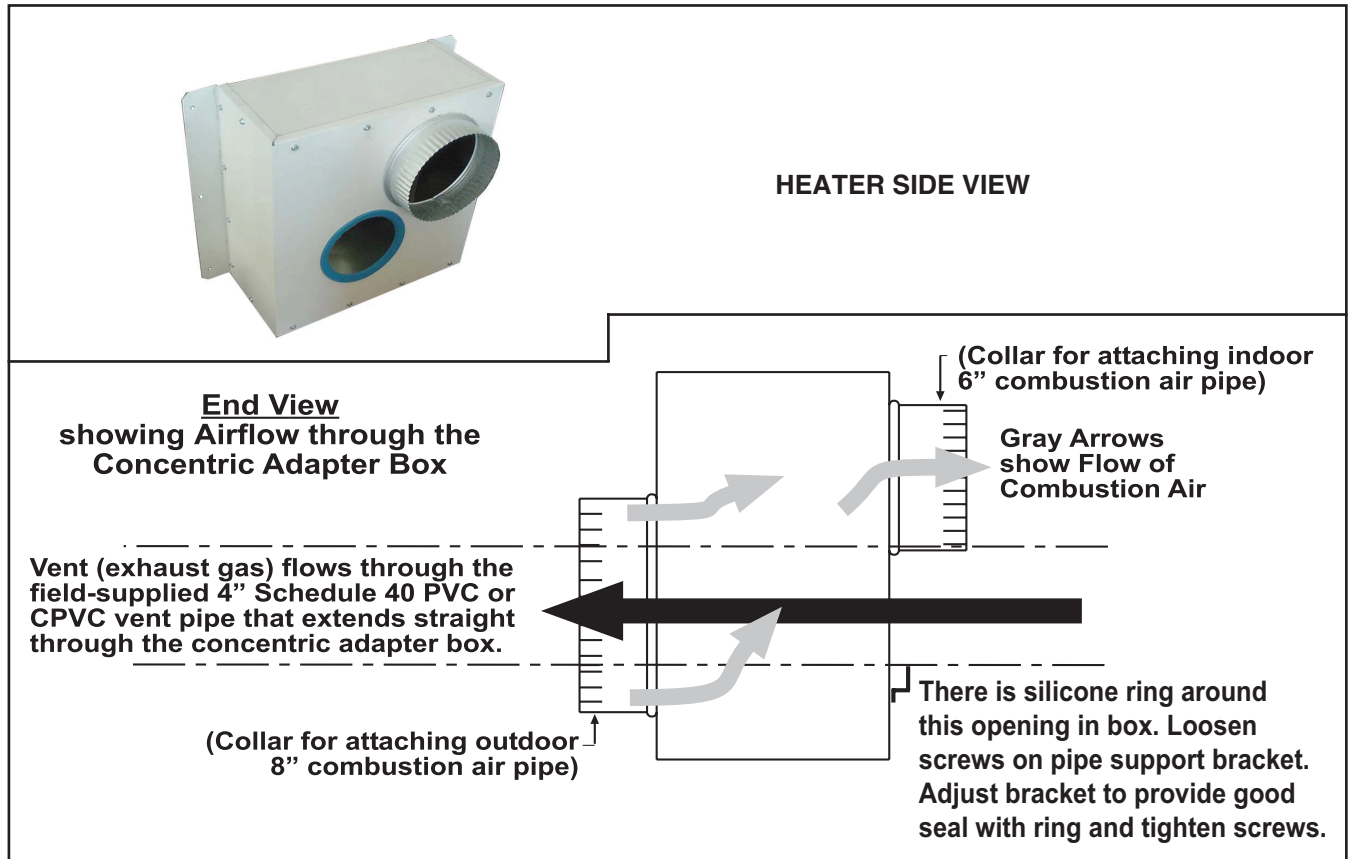
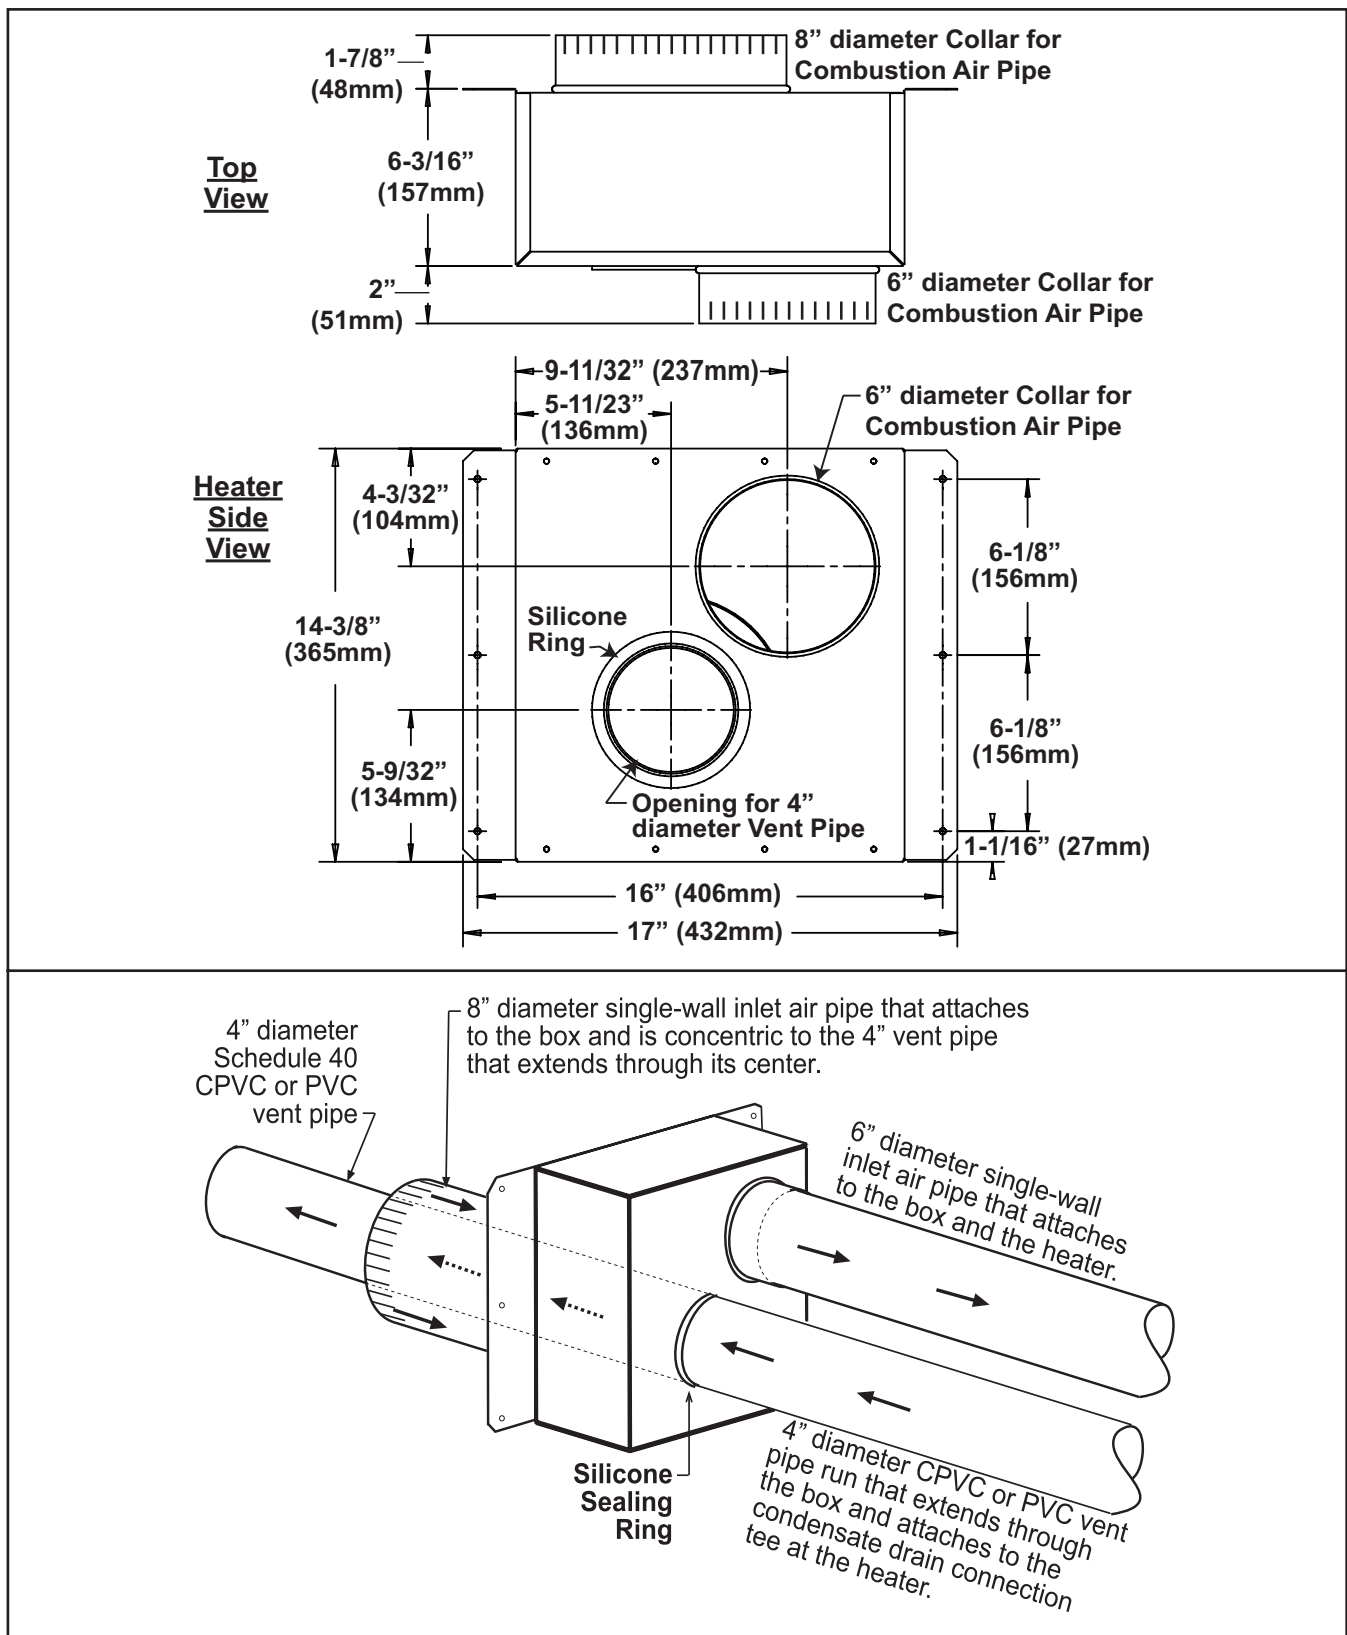

Figure 10. Concentric Adapter Box
Figure 11. Concentric Adapter Box Dimensions and Connections
- The concentric adapter box is shown Figure 10. Dimensions and connections are shown in Figure 11.